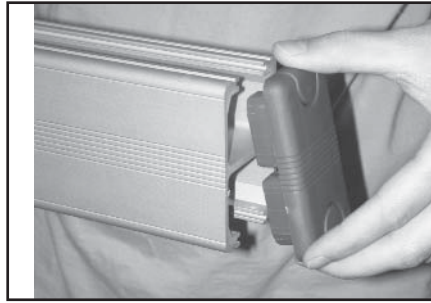

Figure 36
30. Place the blue flat end caps onto each end of the traverse rail (Figure 36).
3. Using a step ladder, remove the flat blue caps from each end of the traverse rail (see Figure 36).